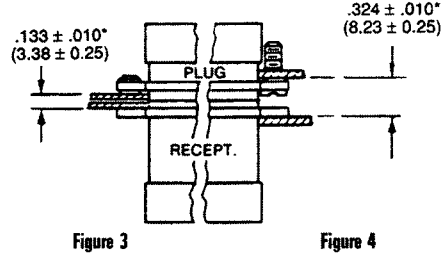

Figure 3
3. With both connectors rear mounted (float rivets on plug assembly side), use #4-40 flat head screws, flush with the panels (Fig. 3).